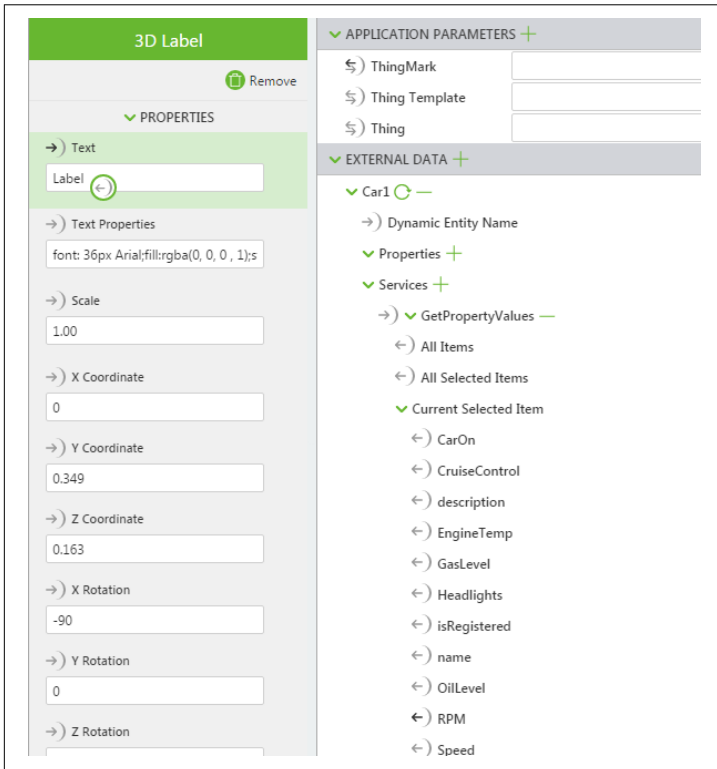

Figure 3-12. Dragging and dropping the binding icon onto the Text field in the PROPERTIES pane for the 3D Label widget
14. Drag the binding icon next to RPM and drop it onto the Text field in the PROPERTIES pane for the 3D Label widget (Figure 3-12).